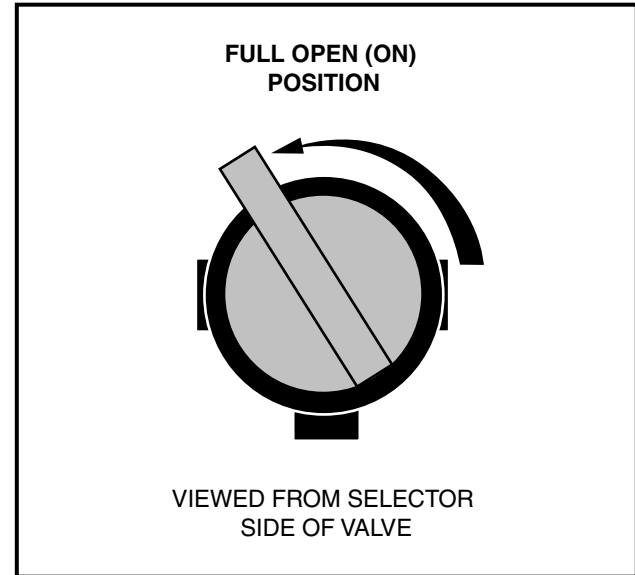
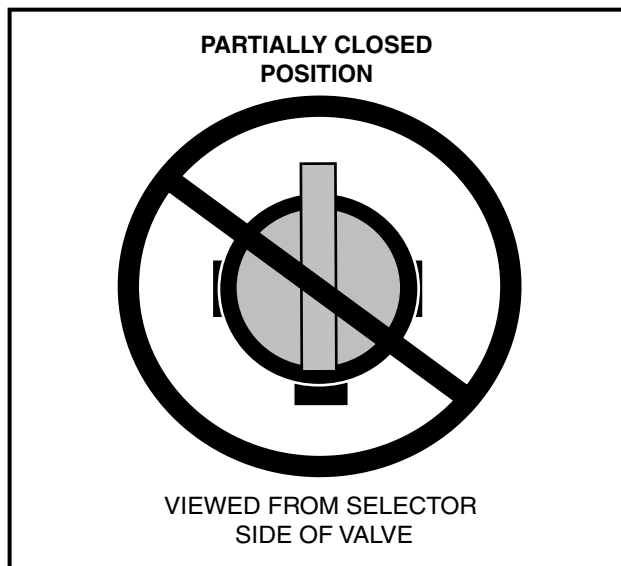

Figure 3-7 Fuel Shut-off Valve – Open Position
Figure 3-8 Incorrect Fuel Shut-off Valve Setting
- 2.1. Remove plug from the fuel tank vent nipple and connect fuel vent line to nipple. Open the fuel shut-off valve (**Figure 3-7, Page 3-6**). Make sure the valve is fully open. A partially closed fuel shut-off valve (**Figure 3-8, Page 3-6**) combined with the use of the choke can result in a fouled spark plug and engine failure.